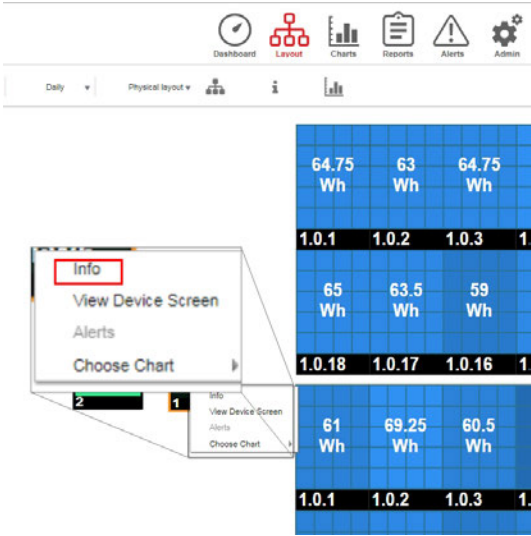
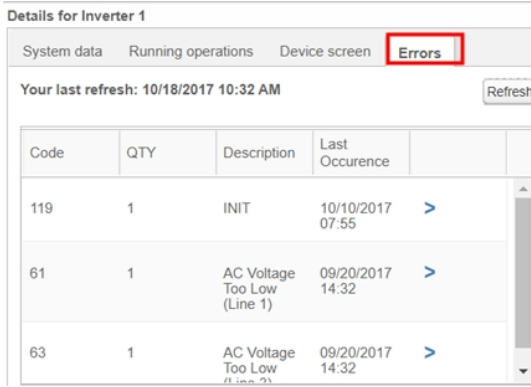

Figure 27: Inverter menu
Figure 28: Inverter details - Error list
2. Right-click the inverter and select **Info** from the menu (Figure 27). The inverter details window is displayed (Figure 28).